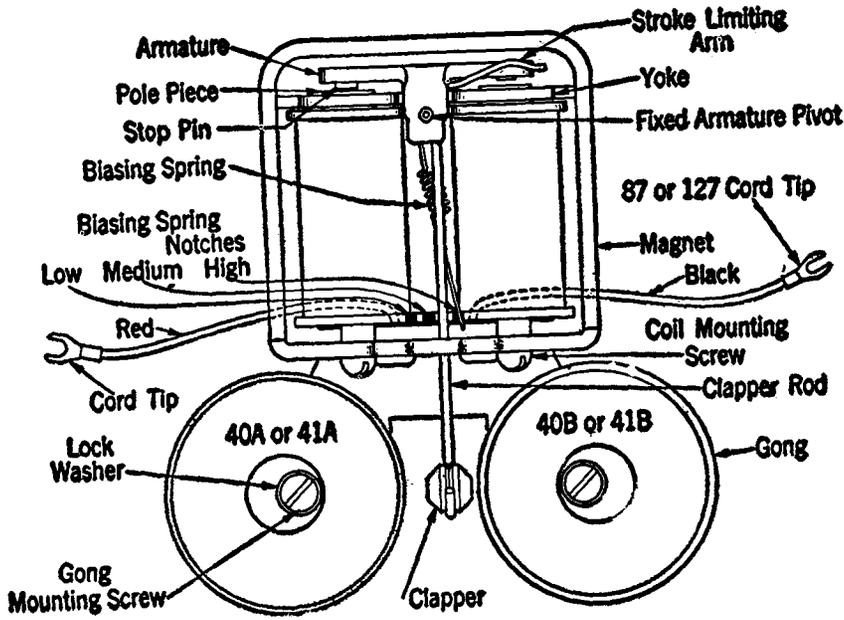

Fig. 1 - Typical B-Type Ringer
4.01 All B-type ringers sent to the field whether installed in instruments or shipped loosely for repair purposes will have the biasing spring located in the high tension notch (see Figs. 1 and 2).